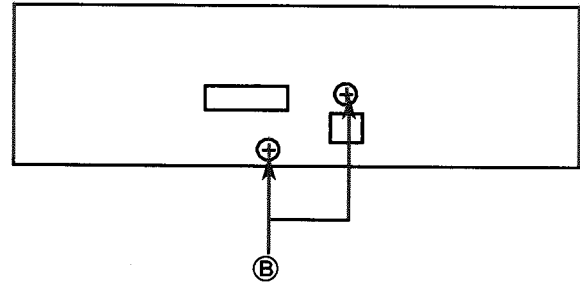

Fig. 2
- (1) The level of RF output (EFM output: amplitude of eye pattern) will be low.
- (2) The drive current required by the laser diode will be increased. In such a case, check the life of the laser diode following the flowchart below.
### (3) Measurement of laser diode drive current (Fig.2)
(Fig.2)